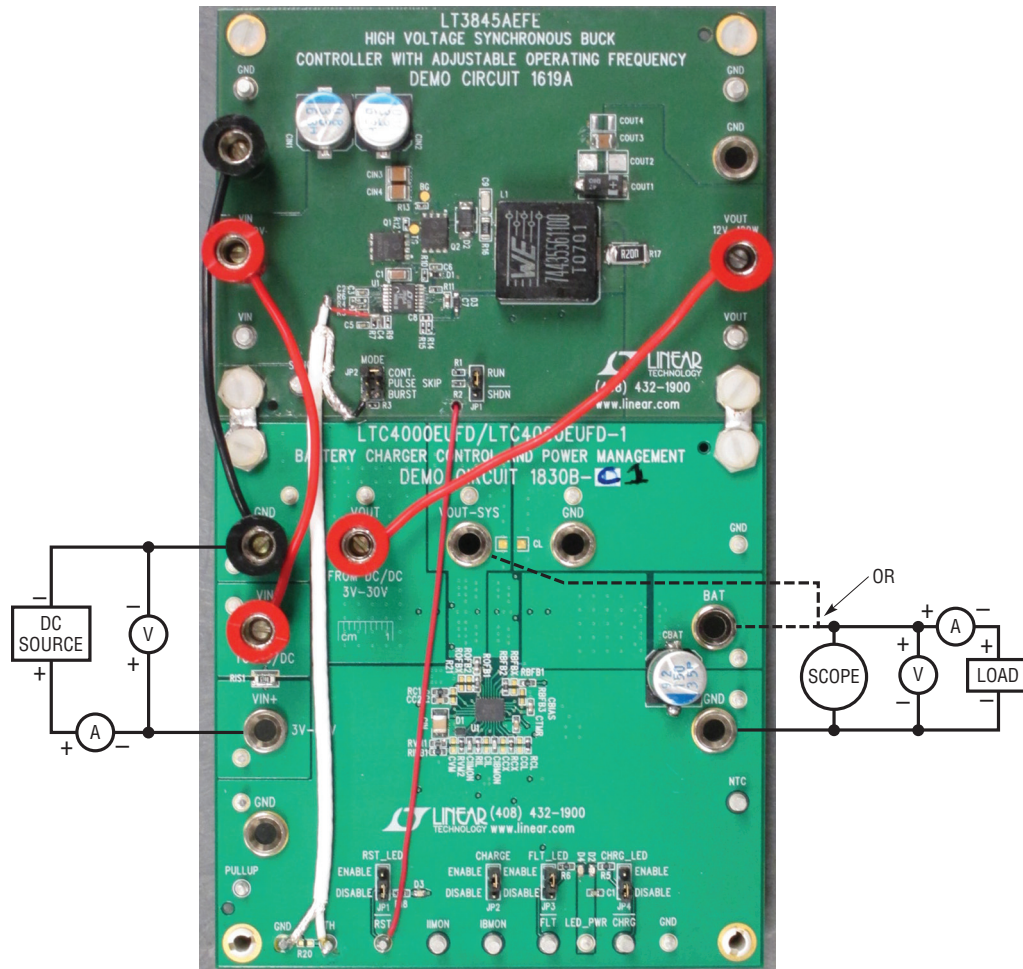

Figure 1. Fixture Connections and Measurement Equipment Setup
Once the circuit has been customized to suit the application at hand, it is easy to set up to evaluate the performance of the LTC4000-1 when combined with a suitable switching power converter, such as the LTC3845A. Voltages and currents cited in this procedure are for the design as delivered; if the design has been customized, substitute the appropriate values. Refer to Figure 1 for proper measurement equipment setup and follow the procedure below:
- c. If efficiency measurements are desired, refer to Figure 1 for the test setup.